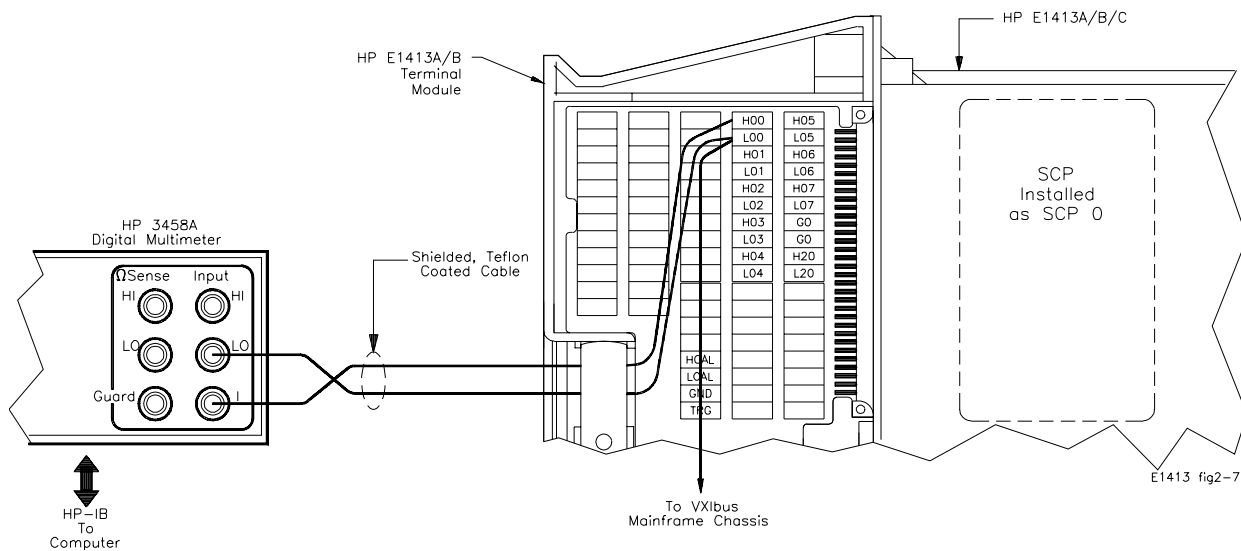

Figure 2-21. Typical Wiring Configurations
- [a] Connect wiring to terminal block and DMM (see Figure 2-21)